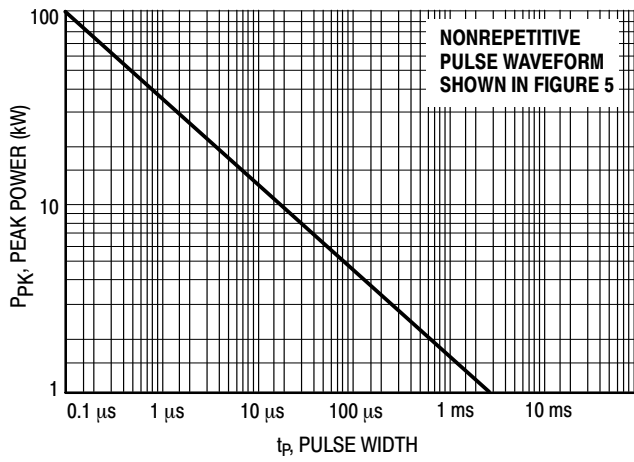
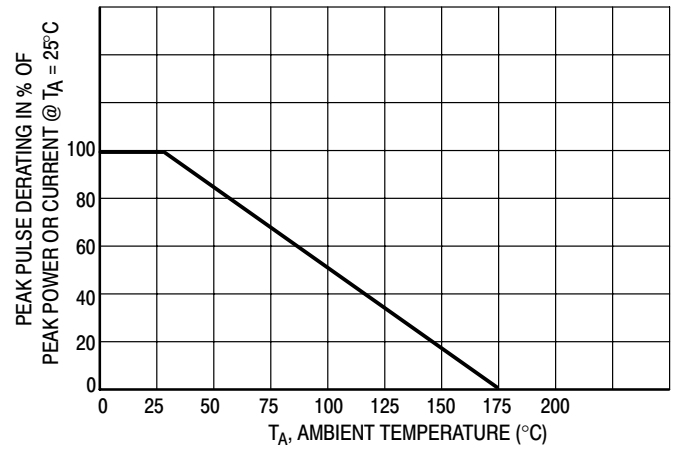
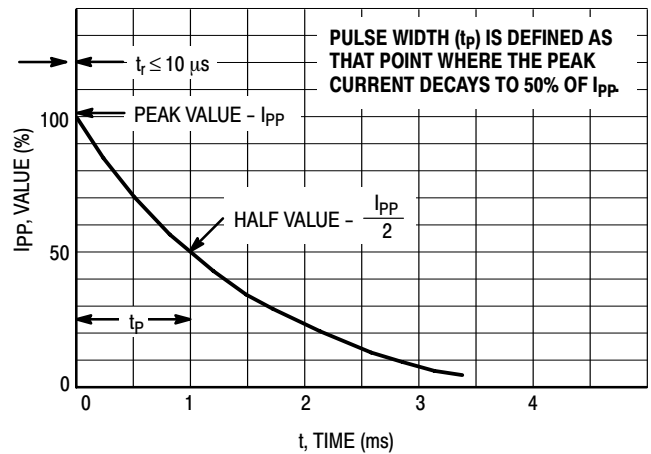
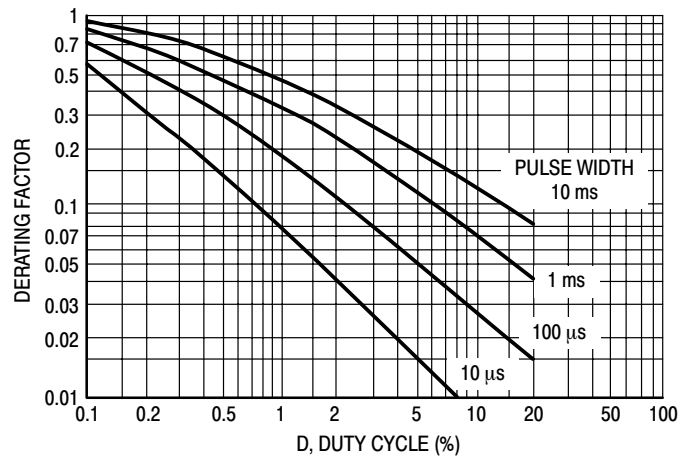

Figure 1. Pulse Rating Curve
Figure 2. Pulse Derating Curve
Figure 5. Pulse Waveform
Figure 7. Typical Derating Factor for Duty Cycle
1. Nonrepetitive current pulse per Figure 5 and derated above $T_A = 25^\circ\text{C}$ per Figure 2.
6. Surge current waveform per Figure 5 and derate per Figures 1 and 2.
The data of Figure 1 applies for non-repetitive conditions and at a lead temperature of 25°C. If the duty cycle increases, the peak power must be reduced as indicated by the curves of Figure 7. Average power must be derated as the lead or ambient temperature rises above 25°C. The average power derating curve normally given on data sheets may be normalized and used for this purpose.
At first glance the derating curves of Figure 7 appear to be in error as the 10 ms pulse has a higher derating factor than the 10 μ s pulse. However, when the derating factor for a given pulse of Figure 7 is multiplied by the peak power value of Figure 1 for the same pulse, the results follow the expected trend.